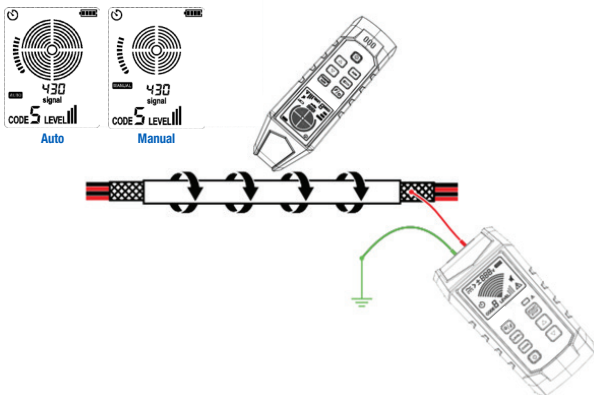

Figure 8.5.2a – Track Shielded Cable (with its far end disconnected from grounding)
5. See **Figure 8.5.2a** on next page for reference.